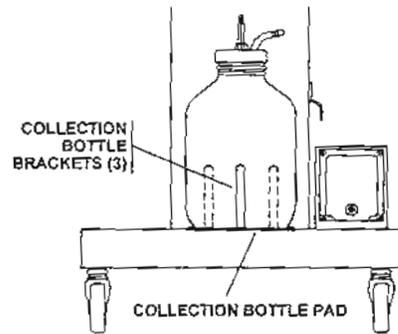

Figure 2-3. Bottle brackets.
- (f) Insert the collection bottle assembly into its brackets on the base assembly (fig 2-3).